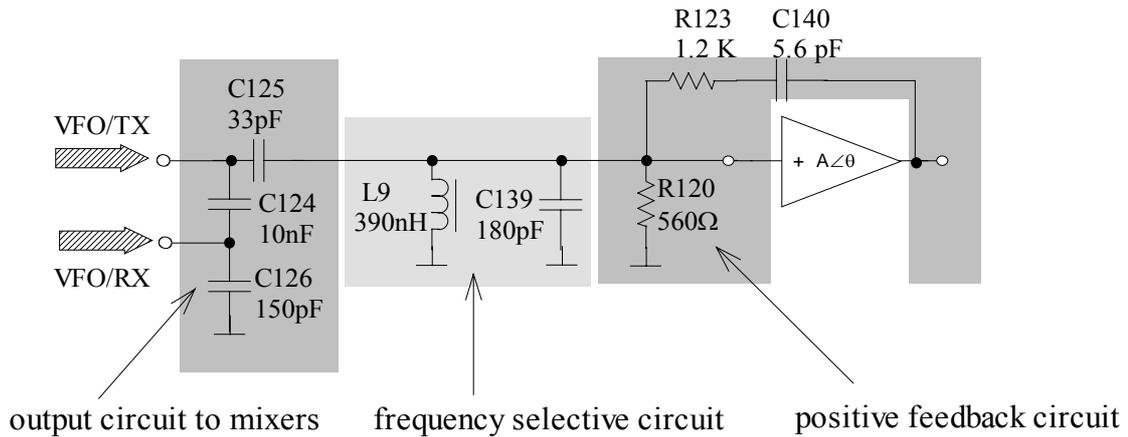

Figure 7.13 Blocks in oscillator circuit
16. The parts of VFO basic circuit are shown in Figure 7.13.